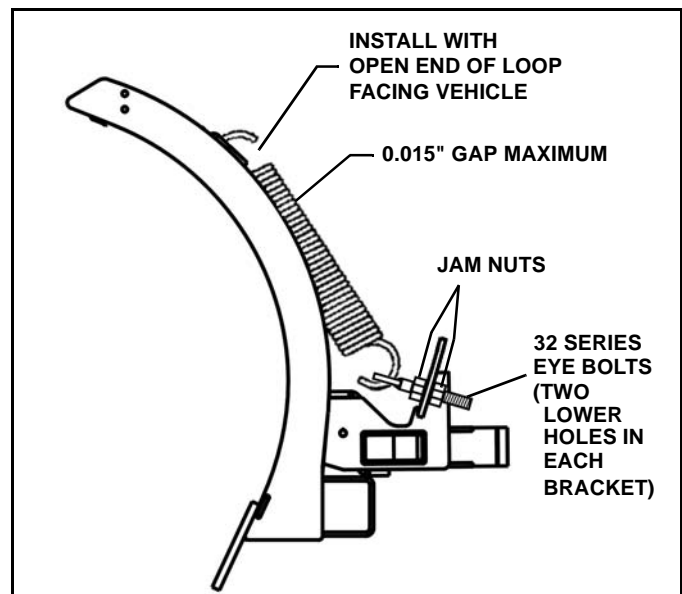

Figure 2-4
**4c. 32SKD SERIES BLADE ONLY:** Three eyebolt mounting holes are present in each swing frame spring bracket on this model. Two springs and eyebolts are used on each side of the plow, and must be secured in the two lower holes of each spring bracket. A jam nut on either side of the spring bracket secures each eyebolt and provides for adjustment. (See Figure 2-4).